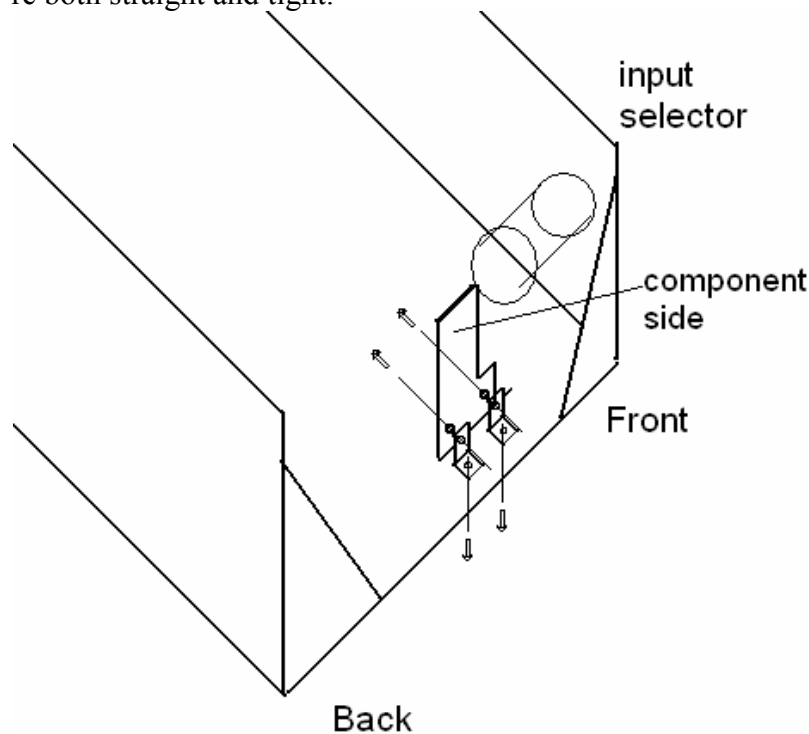

Figure 6-Mounting the power supply to the SCA80
8. Use the old mounting holes from C11 to fasten the brackets to the chassis. See Figure 6.